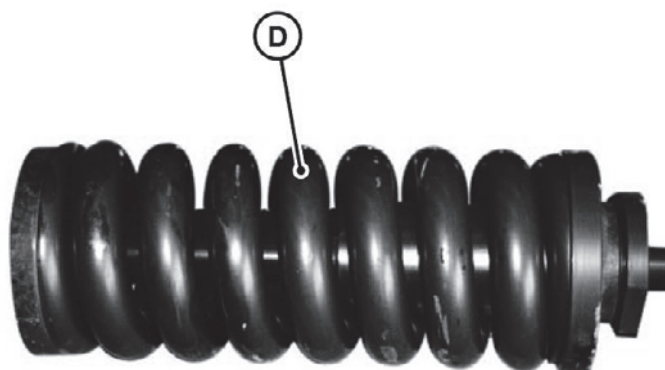

Fig. 26 Spring tensioning fixture
4	If the sag is excessive, tension the chain with the spring tensioning fixture (D) in Fig. 26 provided. If the sag is too small, release track tension.